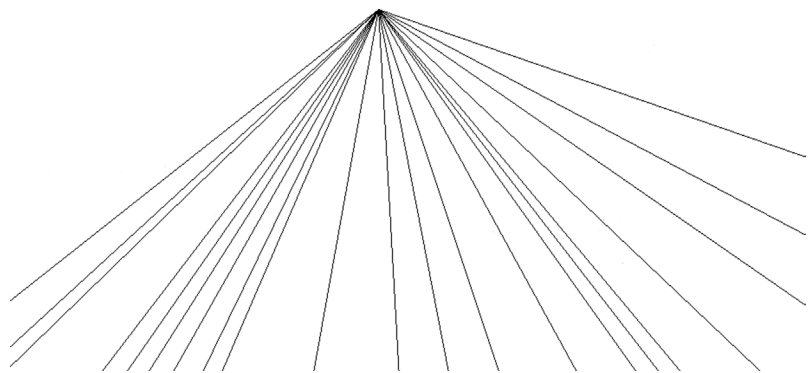

FIGURE 11.17 Ray command.
Step 2. Click anywhere and a ray is created (Fig. 11.17).